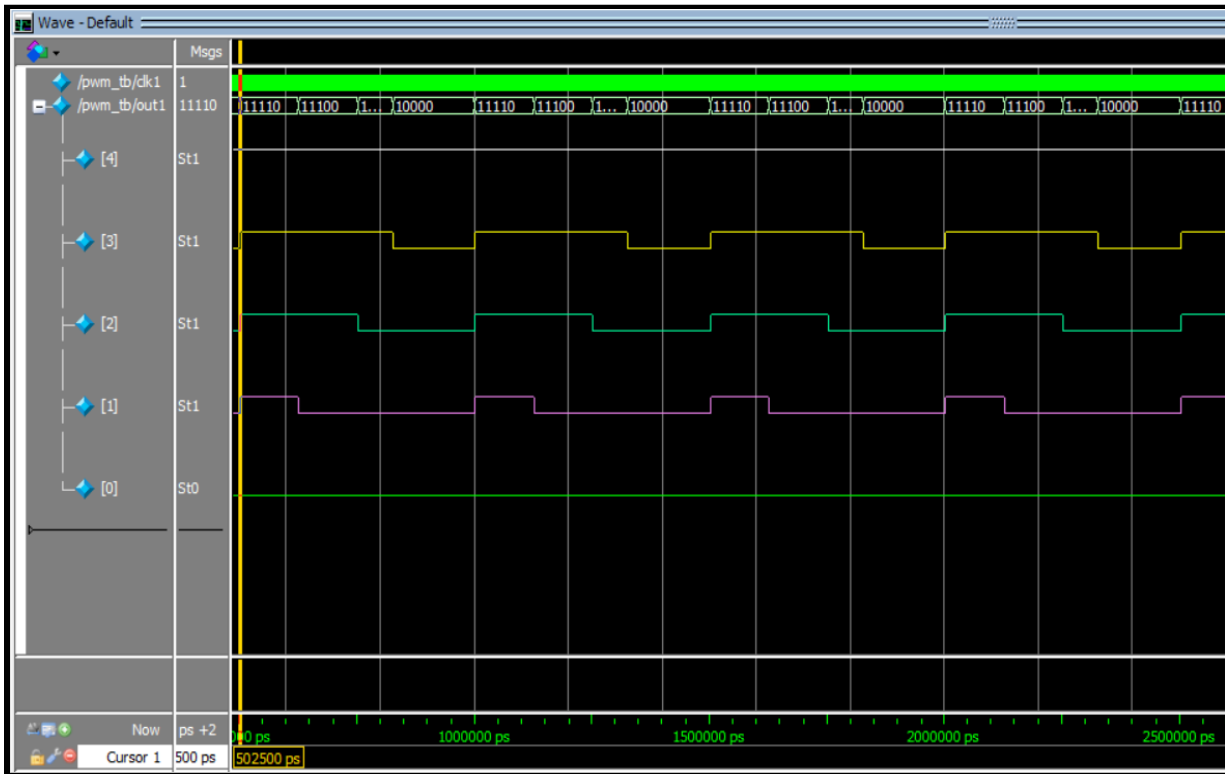

Fig.11 Output Waveform of Testbench
- Duty cycles of output waveforms are 0%, 25%, 50%, 65%, 100% for waveforms 0,1,2,3,4 respectively as shown in Fig.11.